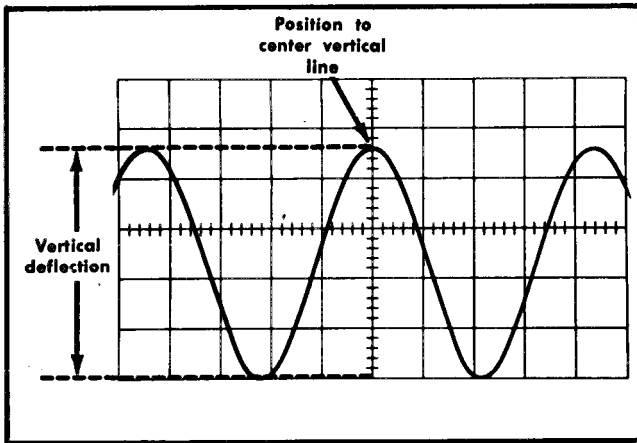

Fig. 2-15. Measuring peak-to-peak voltage of a waveform.
6. Turn the vertical POSITION control so the lower portion of the waveform coincides with one of the graticule lines below the center horizontal line, and the top of the waveform is in the viewing area. Move the display with the horizontal POSITION control so one of the upper peaks lies near the center vertical line (see Fig. 2-15).
Example. Assume a peak-to-peak vertical deflection of 4.6 divisions (see Fig. 2-15) using a 10X attenuator probe and a VOLTS/DIV switch setting of .5.